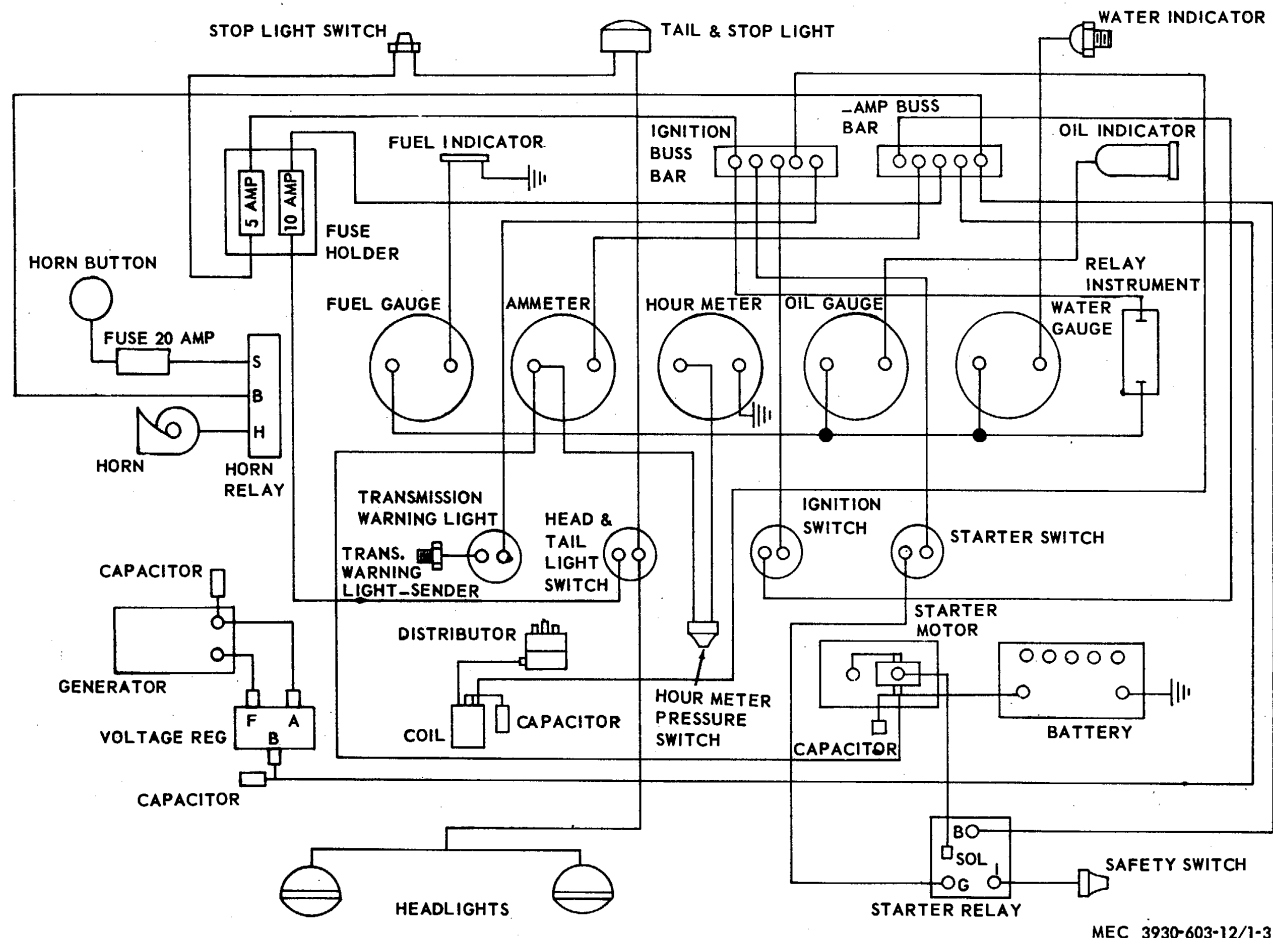

Figure 1-3. Schematic wiring diagram, Model Jg-40PT4 Tractor
*k. Wiring Diagram.* Refer to figure 1-3 for the tractor electrical schematic wiring diagram.